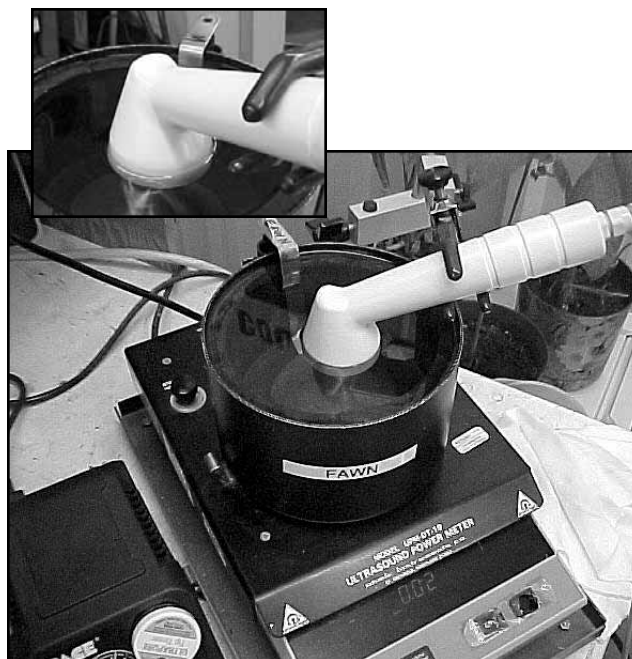

FIGURE 5.26
2. Place the Applicator into the Power Meter retainer. Make certain the Applicator's aluminum face is submerged in the degassed water and centered directly over the S.S. cone. See Figure 5.26.